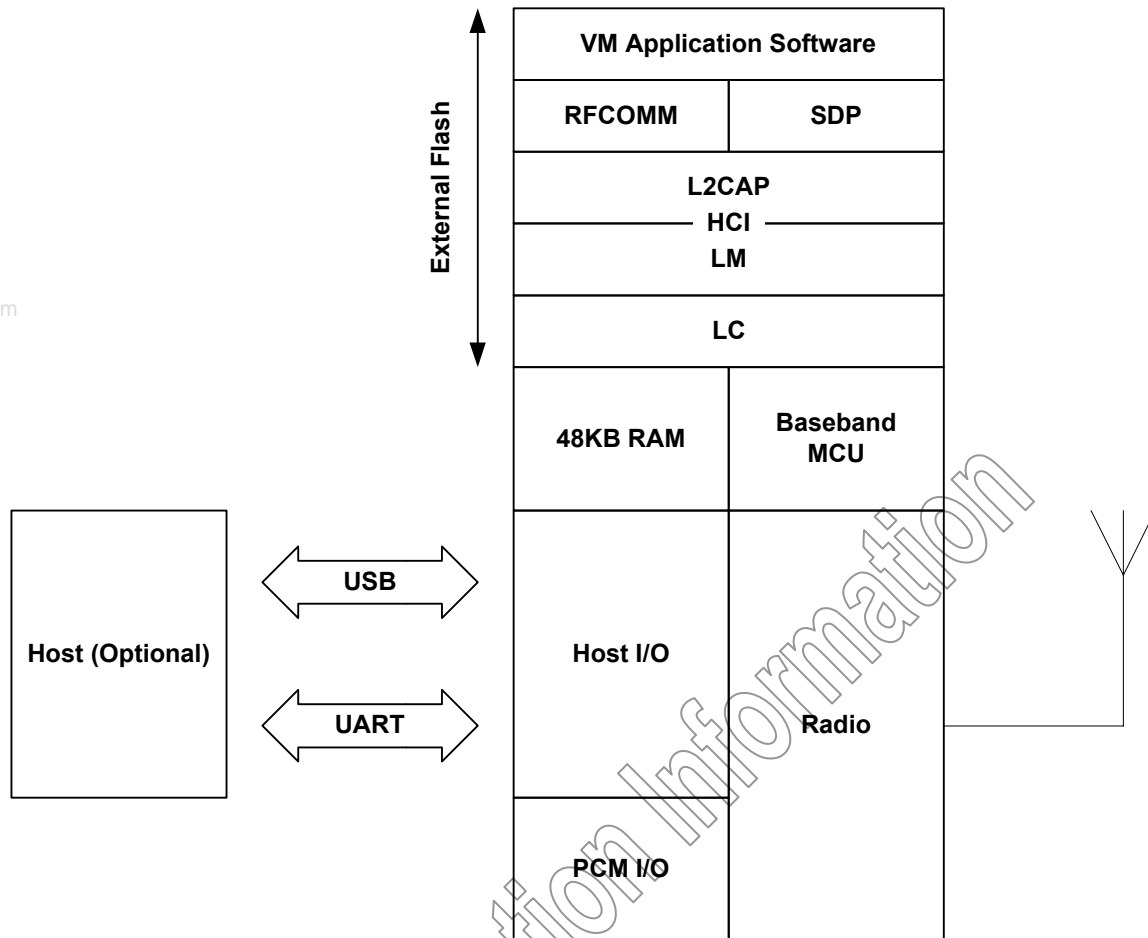

Figure 9.3: Virtual Machine
In Figure 9.3, this version of the stack firmware shown requires no host processor (but can use a host processor for debugging etc.). All software layers, including application software, run on the internal RISC processor in a protected user software execution environment known as a Virtual Machine (VM).